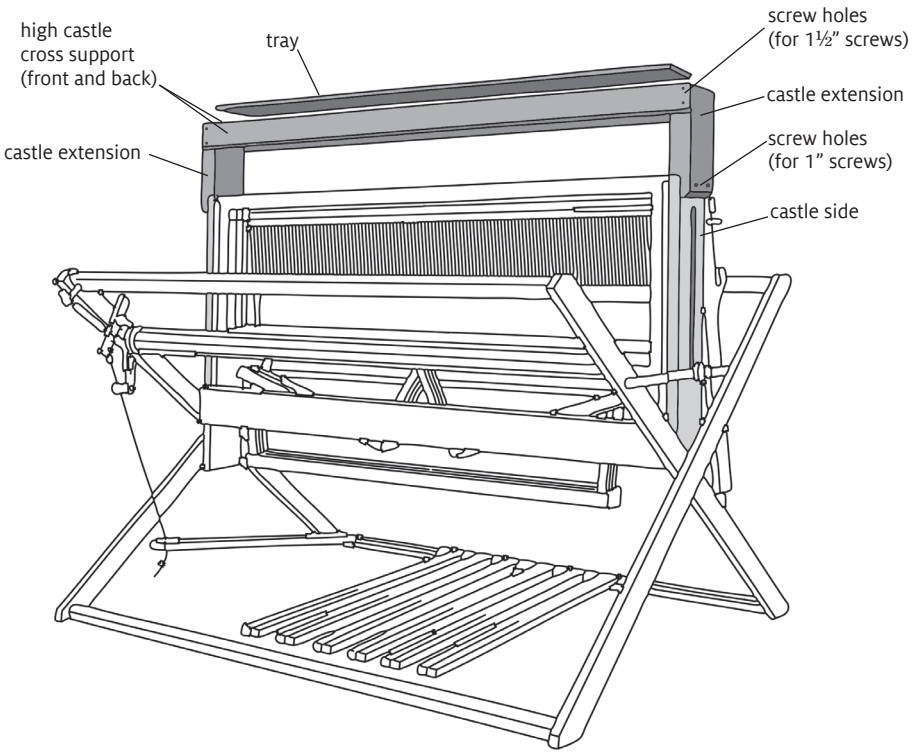

FIGURE 1
1. To mark the positions of the holes you need to drill, hold one of the castle extensions firmly in place on top of one of the castle sides (figure 1). Make sure that the castle extension is flush with the edges of the castle side. Insert two 1" wood screws into the holes in the castle extensions and tap them lightly with a hammer to dimple the wood of the castle side, marking their placement.